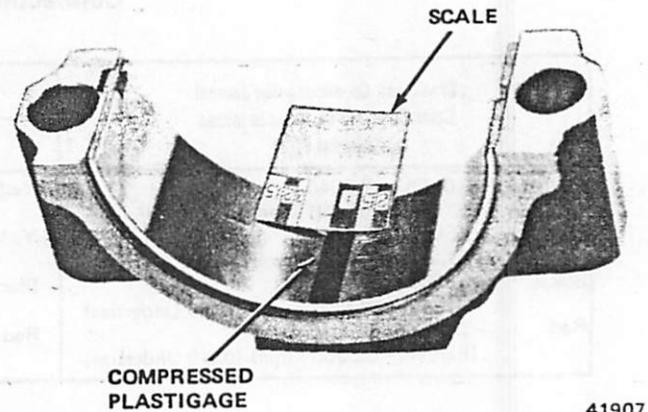

Fig. 1B-136 Connecting Rod Bearing Clearance Measurement with Plastigage
- (1) Wipe bearing inserts and rod journal clean.
- (2) Lubricate upper insert and install in rod.
- (3) Place strip of Plastigage across full width of lower insert at center of bearing cap. Lower insert must be dry.
- (4) Install bearing cap on connecting rod and tighten retaining nuts with 33 foot-pounds (45 N•m) torque.
- (5) Remove bearing cap and determine amount of clearance by measuring width of compressed Plastigage with scale on Plastigage envelope (fig. 1B-136).